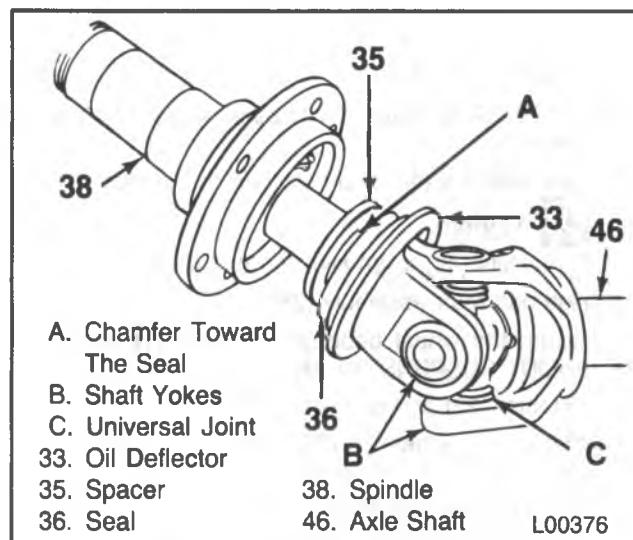

Figure 2 — Axle Shaft Assembly
1. Seal (36) and spacer (35) to the axle shaft (46) (figure 2).
Remove or Disconnect (Figure 2)
Install or Connect (Figure 2)